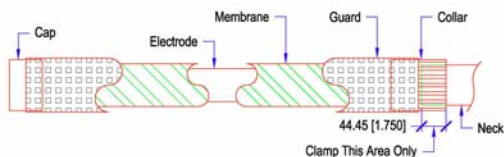

Figure 1
2. Use vise to secure TECTRON Cell at end of collar nearest top of Cell; lower half of collar will not support pressure of vise. (See Fig. 1.) Support bottom end of Cell with sawhorse.
1. Align shell in pipe vise at top third of collar (see fig. 1) so that blue/black ID mark faces up on seam of membrane shell. Tighten securely but do not crush PVC pipe/collar.